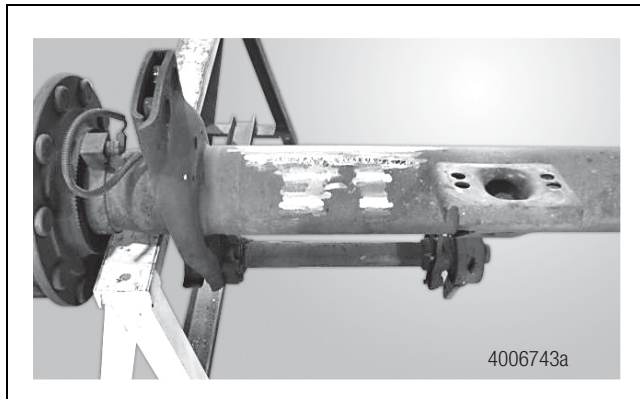

Figure 11
1. After you remove the old axle seats, ensure the areas of the axle where you will install the new RideSentry™ suspension axle seats are clean. Figure 11.